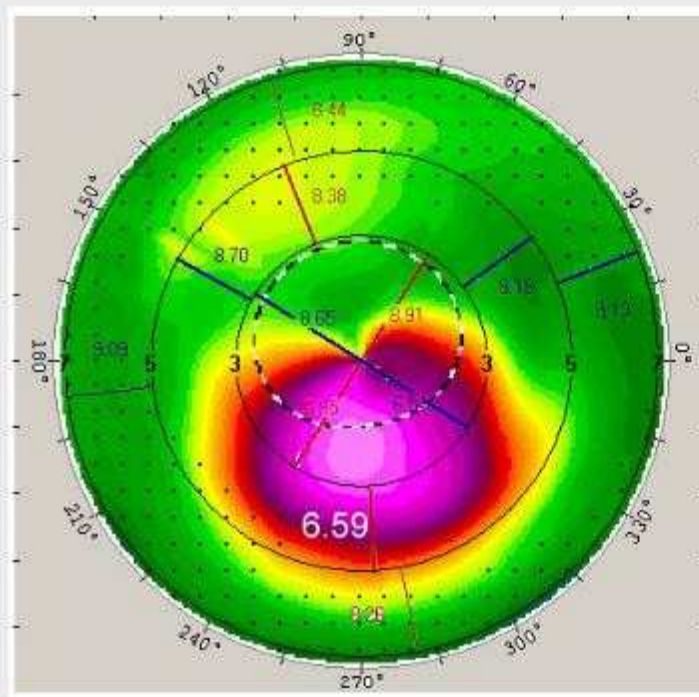

Figure 4: Topography with K readings.
The starting point for the fitting process is the steepest curvature in the midperiphery, which is usually inferior in advanced keratoconus. Because the steep quadrant is fitted with a spherical curve (e-value 0), this curvature defines the base curve (BC) of the lens. In our case we will use a BC radius of 6.60mm (Figure 4).